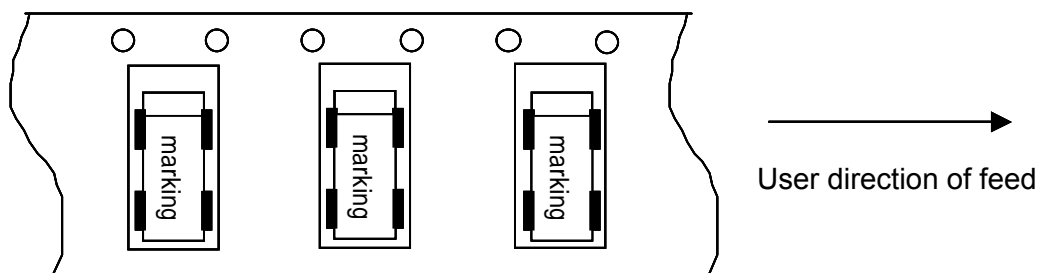

Fig. 1
- (1) Taping shall be placed in tapes in such manner as to assure that marking of the components is visible as per Fig. 1
[Figure 1]
(6) Sample of the label display (display department, please refer to [Figure 1] [Figure 2])